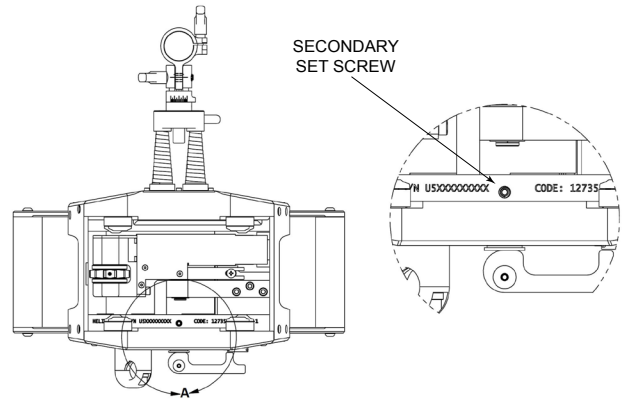

FIGURE 21 - Secondary Clamp Set Screw
3. Then loosen the secondary set screw on the underside of the HELIX M85 weld head, see **Figure 21 - Secondary Clamp Set Screw**.